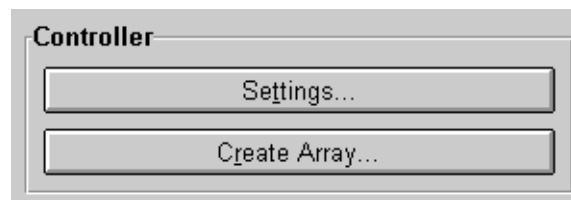

Figure 5-2. Controller buttons
3. Click the Controller Settings button shown in Figure 5-2.